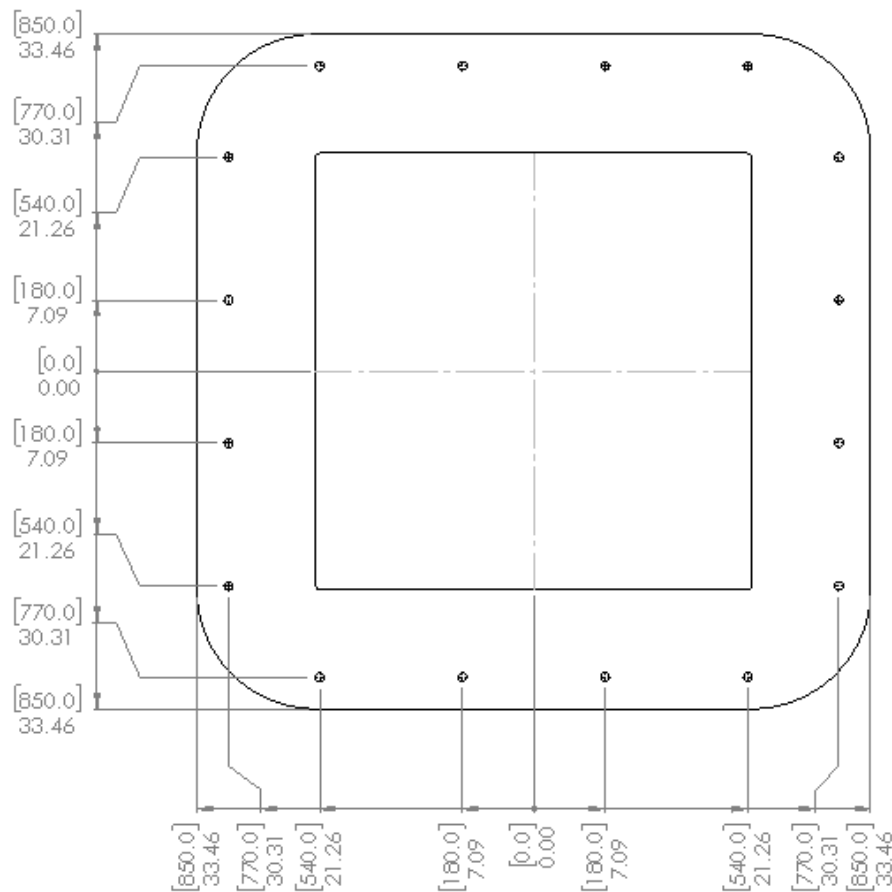

Figure 6 Robot Base Footprint Detail
The Robolution Pro robot is mounted on a steel pedestal and the base has a 67" x 67" (1700mm x 1700mm) footprint. The robot pedestal shall be lagged to a **FLAT** concrete floor **NEVER raised**, and shall NEVER be placed over a seam/joint in the concrete. Below are the minimum recommended foundation details. See Figure 6 for base footprint details.
- C. There cannot be any steel reinforcement bars or other obstructions in the concrete that would prevent drilling into the foundation when using a standard concrete drill bit. See robot base detail in figure 6 below.